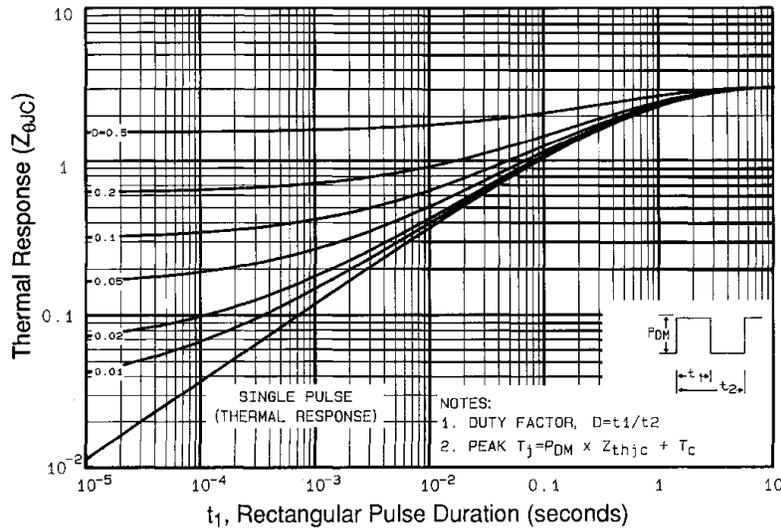

Fig. 11 - Maximum Effective Transient Thermal Impedance, Junction-to-Case
- Repetitive rating; pulse width limited by maximum junction temperature (see fig. 11).